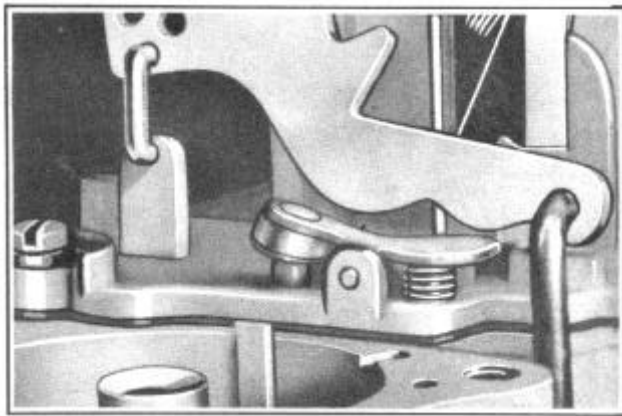

FIGURE 34
3. Adjust by bending the rocker arm, Figure 34, using Bending Tool 1-1389 to obtain this clearance.